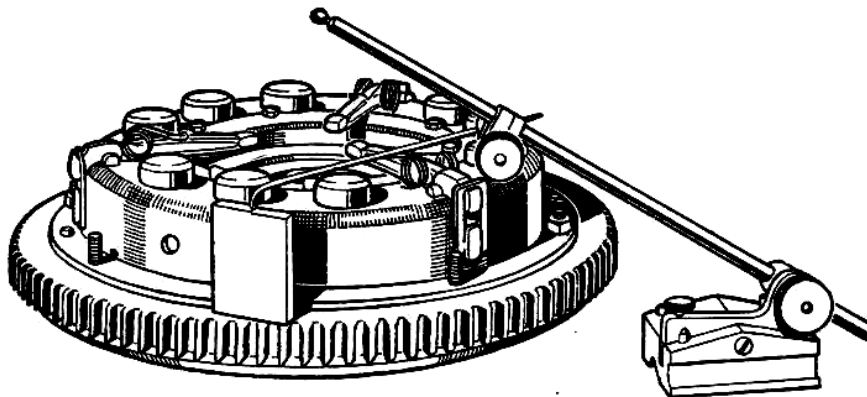

Fig. B-2—Setting the operating levers—Stage 2
3. Place the flywheel and clutch assembly on the surface plate and set the scribe to 1.729 in. (43,90 mm) from the flywheel face by using the gauge as in Fig. B-2.